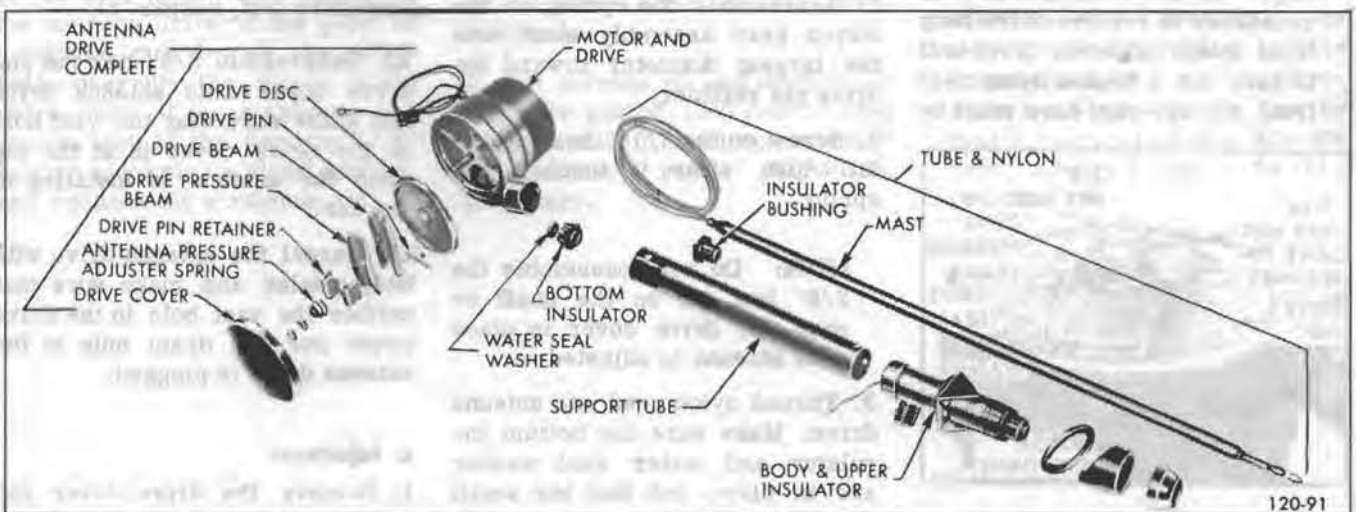

Figure 129-15—Electric Antenna
1. Remove the 3 screws holding the body and upper insulator assembly to support tube (see Figure 129-15).